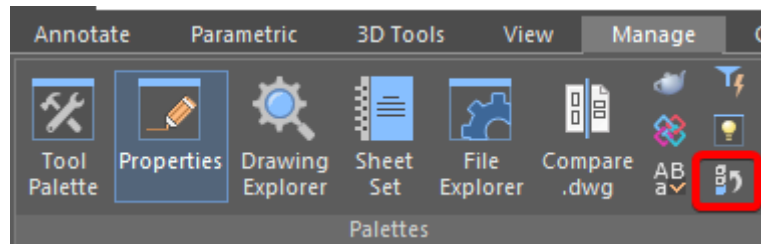

Fig. 1. 3D History function panel
1.1. Open the **3D History** function panel: in the **Manage** tab activate the **3D History** by clicking the icon shown in Fig. 1.